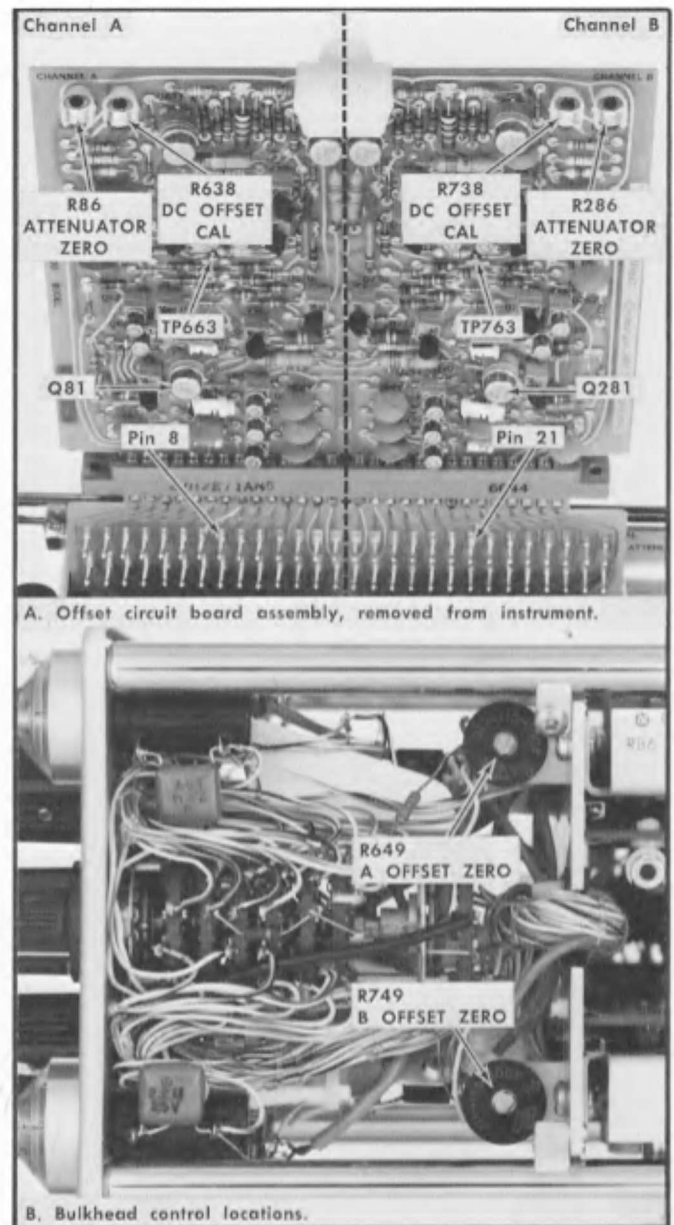

Fig. 7-15. Control locations, Type 356 top view.
20. Adjust Offset Cal and Offset Zero ①
- Check that the test oscilloscope trace is at the centerline, -995 mV at TP663. If trace is not at the centerline, adjust the A Offset Cal control, R638 shown in Fig. 7-15, for -995 mV, trace at test oscilloscope centerline.
- Repeat the check and/or adjustment for the B Channel, using TP763. Control locations are shown in Fig. 7-15.
21. Adjust Attenuator Zero ①